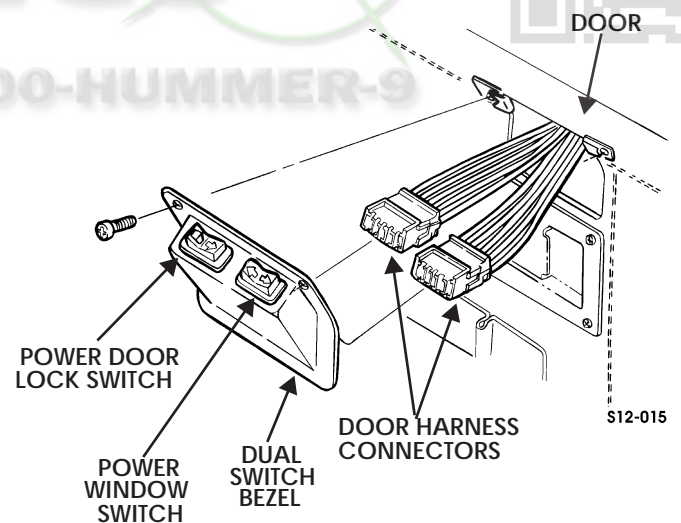

Figure 13-81: Power Window and Door Lock Switches (Front Door Mounted)
2. Remove two screws, dual switch bezel, and two J-nuts from door (Figure 13-81).
1. Install power window and power door lock switches on dual switch bezel (Figure 13-81).